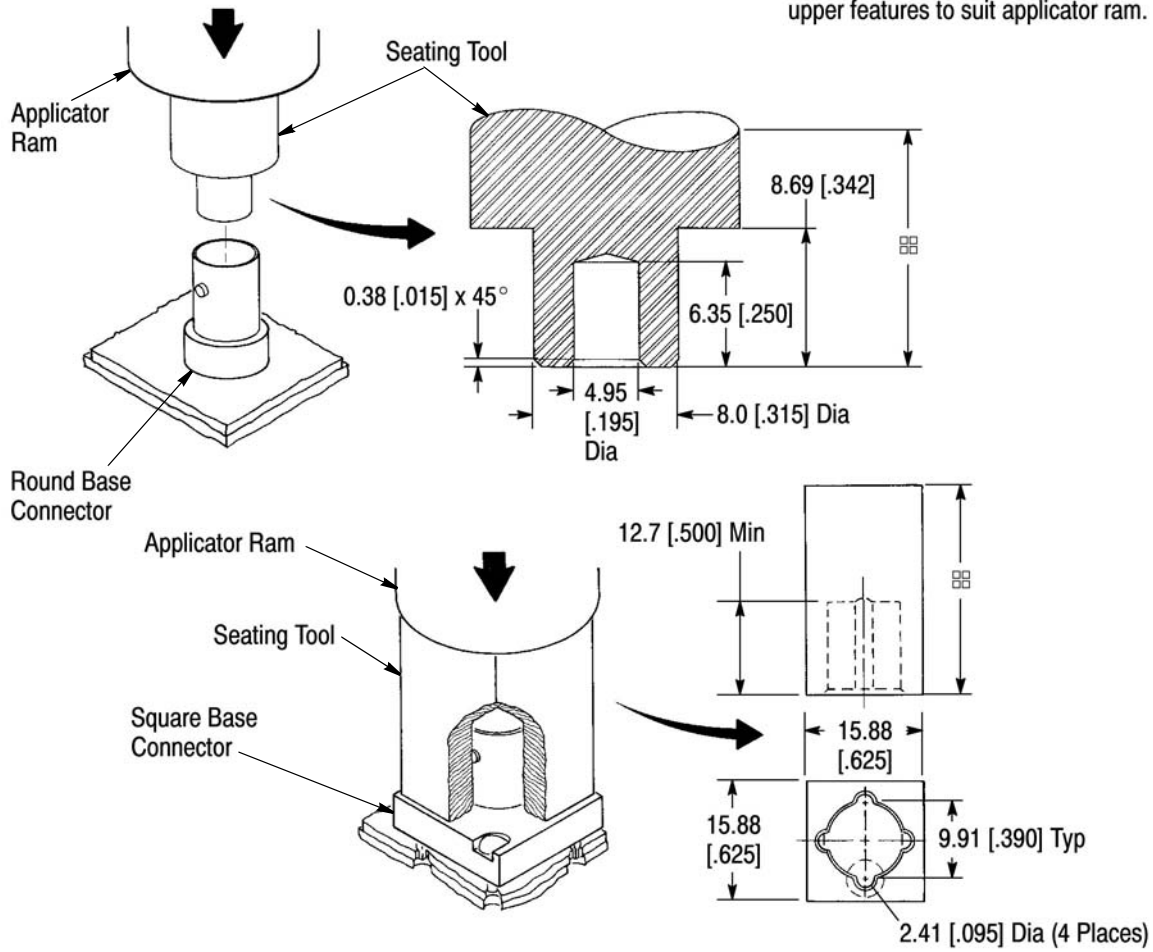

Figure 9
5. TOOLING (Figure 9)
Low-volume manufacturing may be accomplished with an arbor frame manual applicator. Higher volume manufacturing may be accomplished with an automatic machine which can be used for simultaneous application of connectors when available seating force equals a minimum of 2224 N [500 lb] per connector. A customer supplied seating tool is required to install Commercial 50- and 75-Ohm BNC Press-Fit PC Board Coaxial RF Receptacle Connectors. Figure 9 provides information on the requirements for this seating tool.